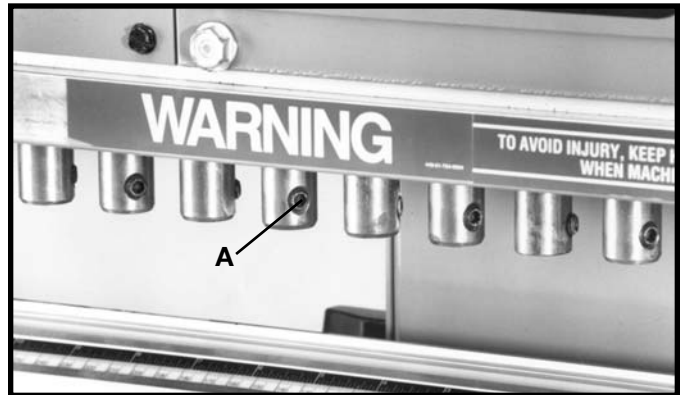

Fig. 35
1. Thirteen set screws (A) are supplied with your machine and are to be threaded partway into each spindle, as shown in Fig. 35, with T-wrench supplied.